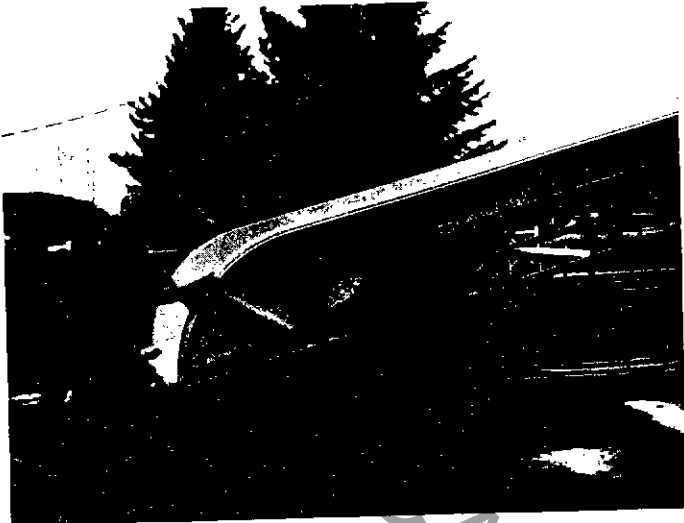

Fig. 37
- (1) Racks #1 and #2: Canopy arch support frames.
- (2) Racks #3, #4 and #5: Canopy support frame bars.
- (3) Front platform fence section.
- (4) Small side platform fence section.
- (5) Outrigger and attached parts.
- (6) Large side platform fence section.
- (7) Slide Bag Box.
- a. Push down on the rear end of the lower slide section in order to tip the front end up to meet the upper slide section. (Fig. 37)